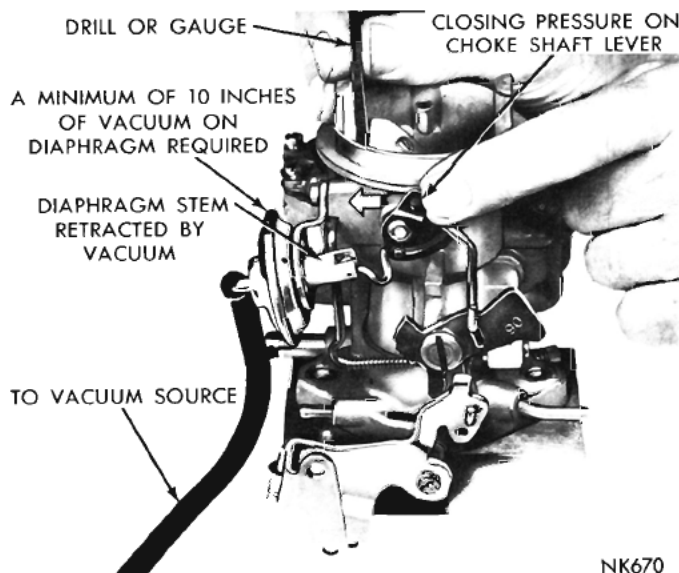

Fig. 12—Measuring the Choke Vacuum Kick Setting
(1) With the engine **Not** running, open the throttle valve far enough to allow the choke valve to be moved to the closed position.
(2) Disconnect the vacuum hose from the diaphragm and connect the hose from the vacuum supply, as shown in (Fig. 12). (A minimum of 10 inches of mercury (HG) will be required.)
(3) Insert a number 32 drill (170 cu. in. engine,
manual transmission), between the choke valve and the wall of the air horn, or a number 42 drill (170 cu. in. engine, automatic transmission) or a  $\frac{3}{32}$  inch gauge in the above location. Use a number 32 drill on the 225 cu. in. engine (manual transmission) or a number 46 drill or gauge on the 225 cu. in. engine (automatic transmission), as above. (Refer to (Fig. 12). Apply sufficient closing pressure on the choke shaft lever to provide the smallest choke valve opening possible without distortion of the diaphragm link. Note that the cylindrical stem of the diaphragm will extend as an internal spring is compressed. The spring must be fully compressed for proper measurement of the kick adjustment.
(7) Install the choke operating link and recheck the choke valve opening, using a gauge or drill. Refer to (Fig. 12).